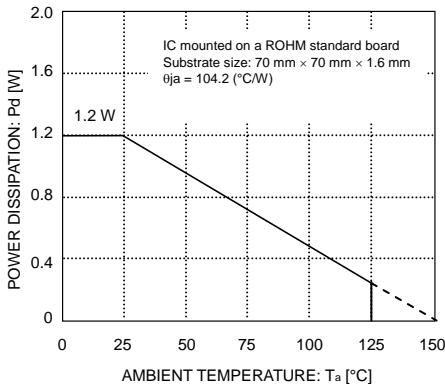

Fig. 23
Refer to the heat mitigation characteristics illustrated in Figs. 23, 24 and 25 when using the IC in an environment where T_a ≥ 25°C. The characteristics of the IC are greatly influenced by the operating temperature. If the temperature is in excess of the maximum junction temperature T_{jmax}, the elements of the IC may be deteriorated or damaged. It is necessary to give sufficient consideration to the heat of the IC in view of two points, i.e., the protection of the IC from instantaneous damage and the maintenance of the reliability of the IC in long-time operation.
In order to protect the IC from thermal destruction, it is necessary to operate the IC not in excess of the maximum junction temperature T_{jmax}. Fig. 23 illustrates the power dissipation/heat mitigation characteristics for the TO252 package. Operate the IC within the power dissipation P_d. The following method is used to calculate the power consumption P_c (W).